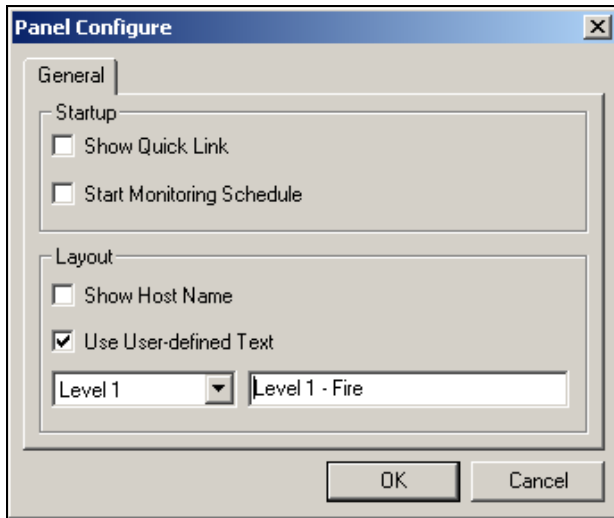

Figure 2-19
- To set the Quick Link window at panel startup, see the **Show Quick Link** option in Figure 2-19.